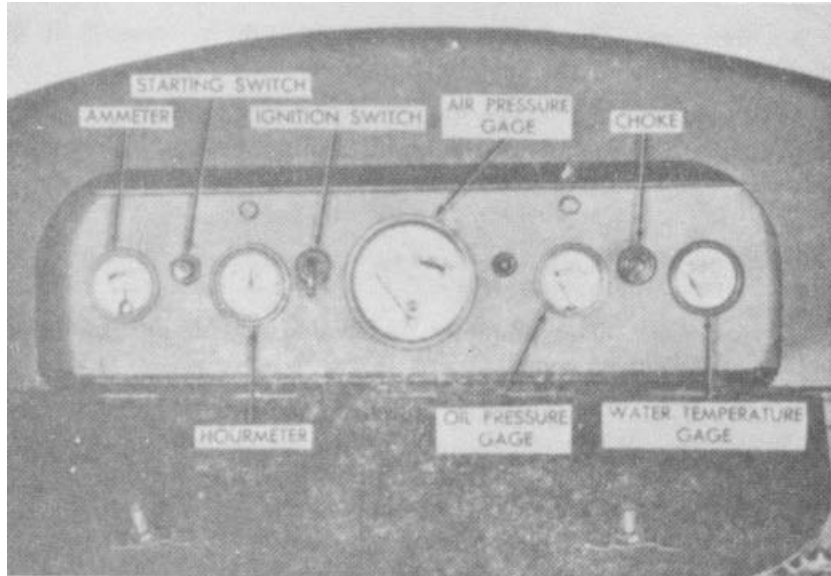

Figure 13. Instrument panel.
(fig. 13)
- c. Set the ignition switch (fig. 13) to the ON position.
- d. Push the starter switch (fig. 13). Use the choke if necessary, until the engine has started and begun to warm up.
- i. Check all gages and meter readings on the instrument panel (fig. 13) and listen for unusual noises.
- c. Set ignition switch (fig. 13) to the OFF position.